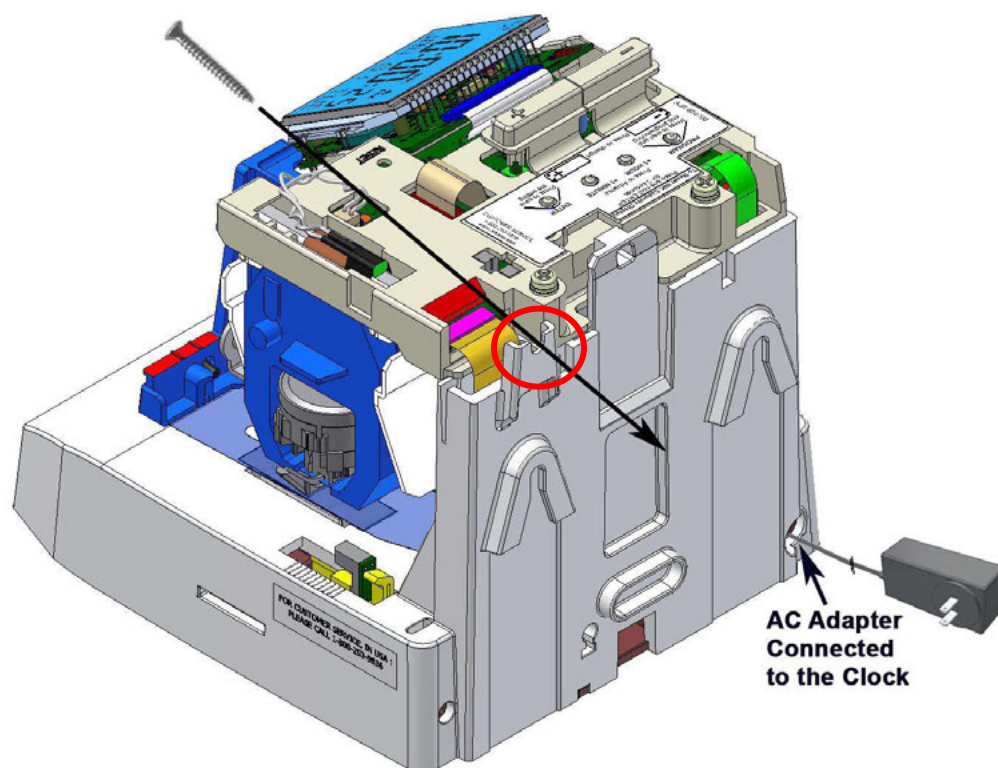

Figure 6: TCX-85 Optional Security Screw.
4. If security is an issue for removing the TCX-85 from the wall, remove the cover, and use the upper mounting slot (see Figure 7 below or Figure 6 on page 41) to firmly secure the back of the TCX-85 to the wall. Secure to the wall using #10 wood screw (or equivalent).